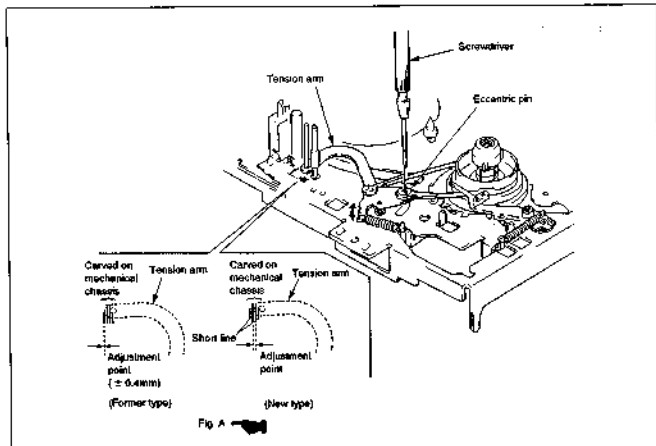

Fig. 4-1
- As the tension regulator position and tension adjustment were changed, the tension adjustment and Fig. 4-1 are changed.